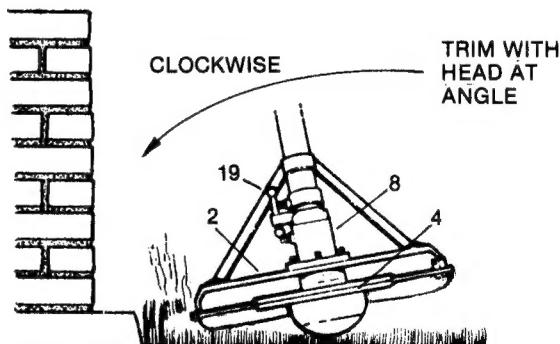

FIG. 6 - TRIMMING OPERATION
ADJUSTING FOR TRIMMING - Loosen "T"-BOLT (19), rotate FIXED LINE HEAD (4) CLOCKWISE to desired angle as shown in FIG. 6 - retighten "T"-BOLT. (locate pin (Y) in LEFT hole in MAIN FRAME (13) top).